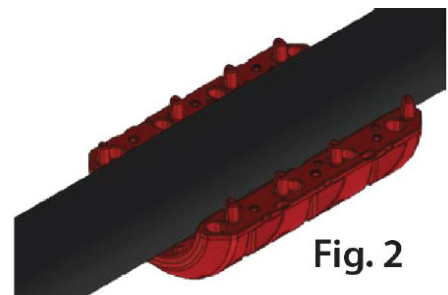

Fig. 2
2. Lay the pipe into the Float (Fig. 2)